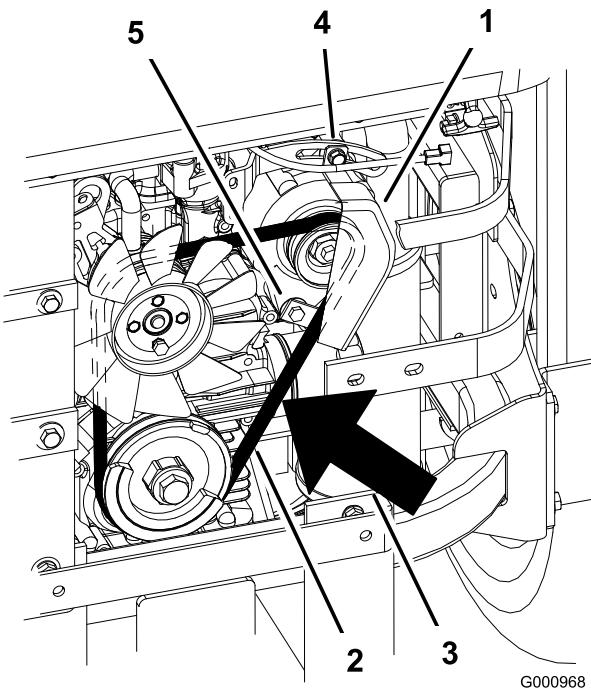

Figure 66
5. If the deflection is correct, tighten the bottom and upper bolt (Figure 66).
2. Adjust the alternator to the outside until there is 1/4 to 11/32 inch (7 to 9 mm) deflection in the belt between the engine and the alternator pulleys with 22.1 lbs of force (10 kgf) (Figure 66).